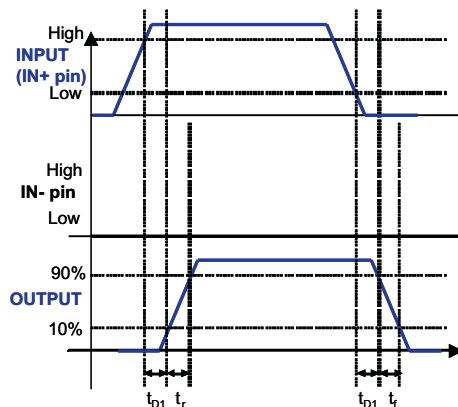
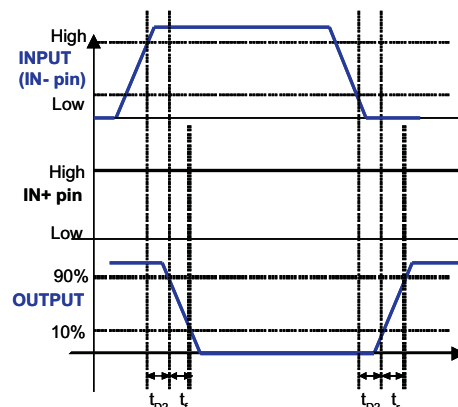
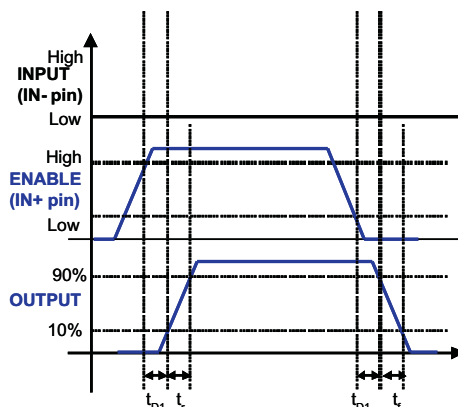
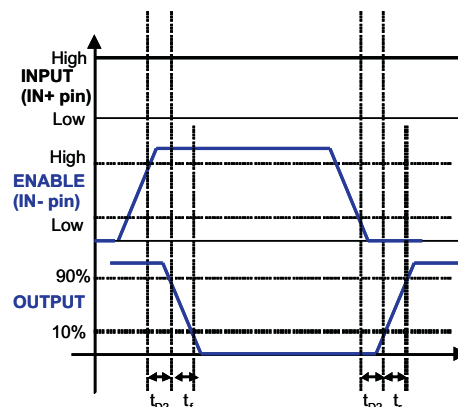

Figure 1. Non-Inverting Configuration
Figure 2. Inverting Configuration
Figure 3. Enable and Disable Function Using IN+ Pin
Figure 4. Enable and Disable Function Using IN- Pin
(1) See timing diagrams in Figure 1, Figure 2, Figure 3 and Figure 4.